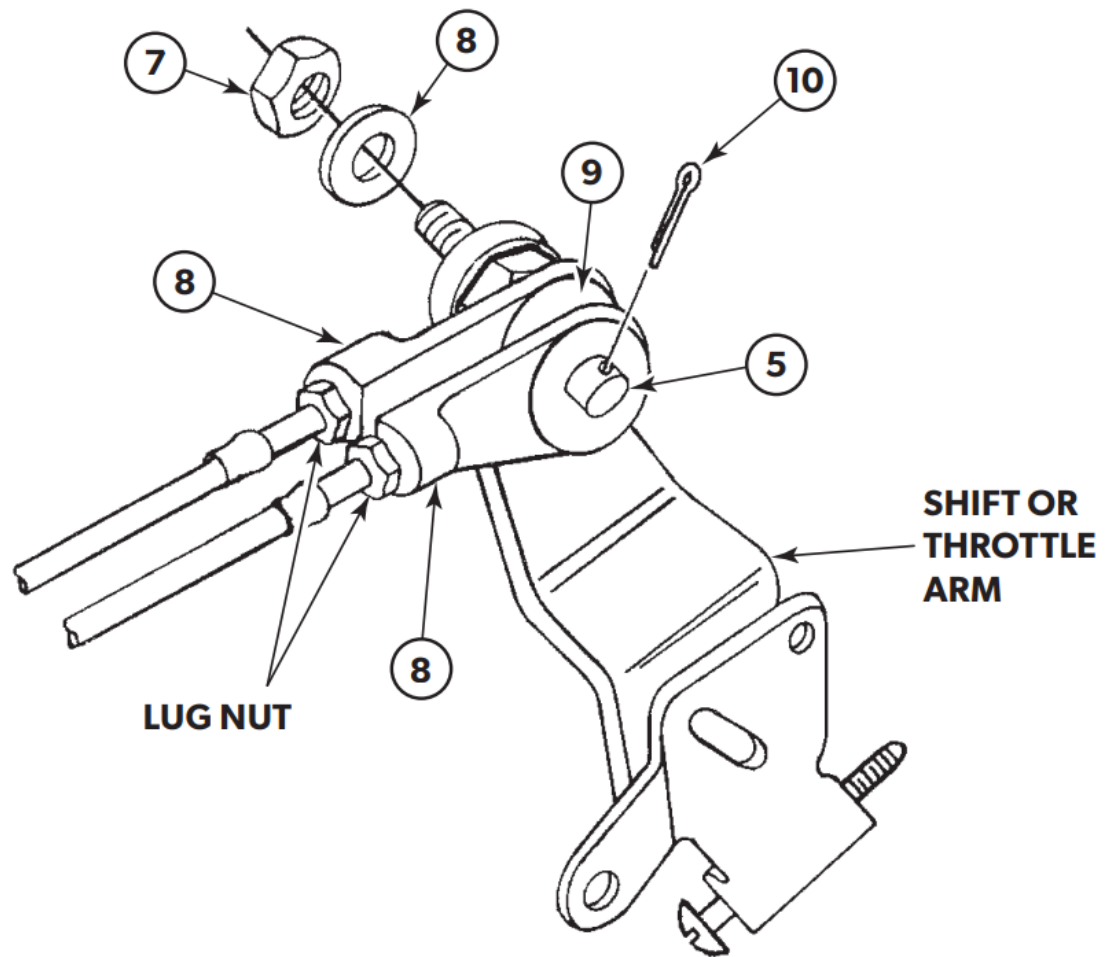

Figure 5.
3. Install pivot pin (item 5) through hole in shift or throttle arm and attach using lock washer (item 6) and hex. nut (item 7) as shown in **figure 5**. Tighten hardware securely.
4. Thread one cable lug (item 8) onto each cable end. Adjust by threading or unthreading until hole in cable lug will pass over pivot pin. Install in the position shown in **figure 5**, with flat washer (item 9) between cable lugs as shown.
5. Install cotter pin (item 10) through hole in pivot pin and spread tangs to lock into place.